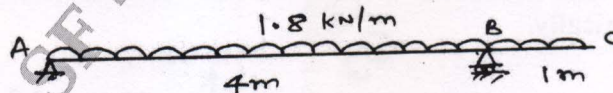

Fig.Q6(b)
b. Find the deflection of the free end of the overhanging end of a Simply supported beam of rectangular cross-section $80\text{mm} \times 100\text{mm}$. $E = 210 \text{ GN/m}^2$ [Refer Fig.Q6(b)].